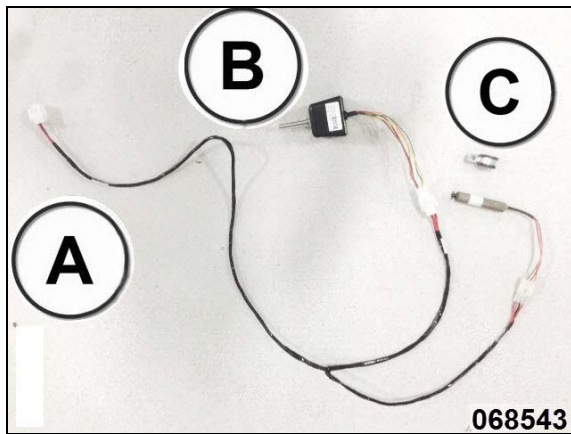

Figure 2 : 068543 Harness and components
1. Remove existing potentiometer in dashboard and replace with 871075. Connect to harness (Fig 2 & 5)